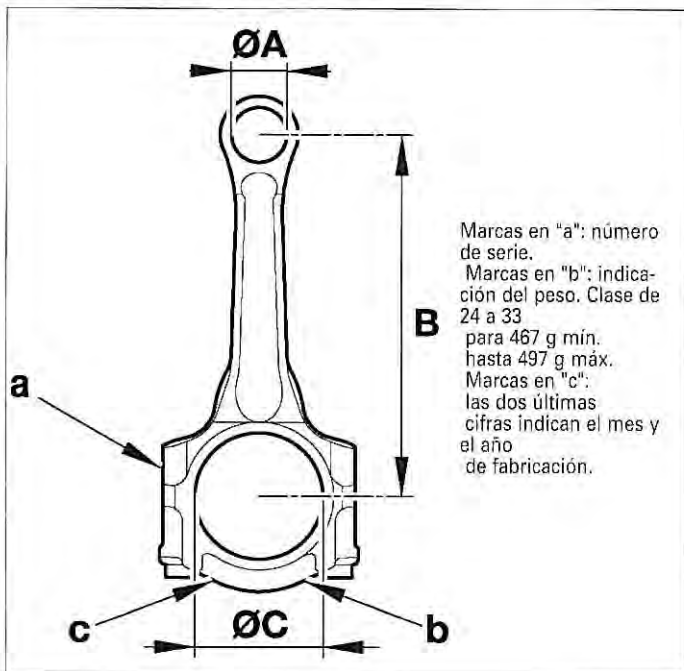

FIG. 9
Entreejes (B) (fig. 9): $133,5 \pm 0,03$ mm.